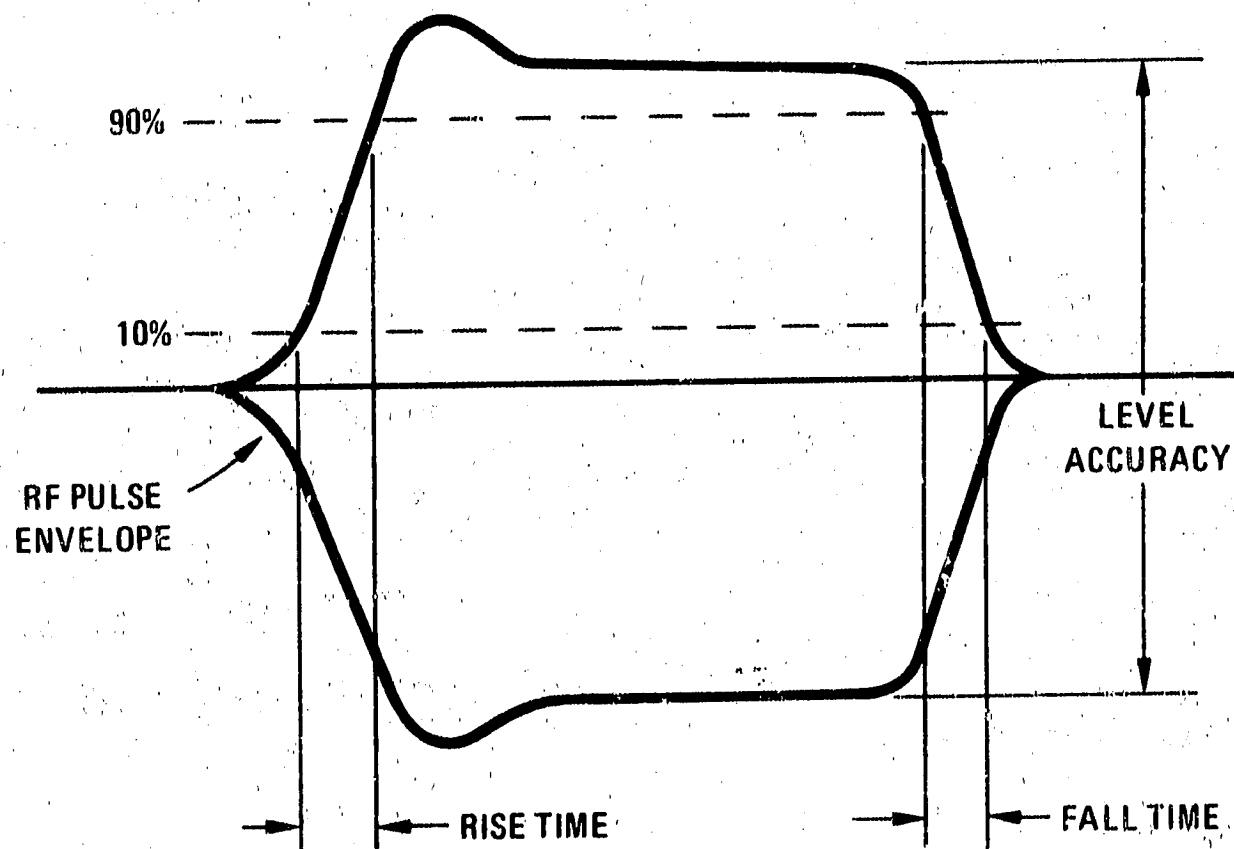

Figure 4-13. Pulse Measurements
- Adjust oscilloscope to display the RF pulse envelope. Adjust generator's PULSE RATE for 100 Hz (or 10 ms period) as read on oscilloscope. Adjust the PULSE WIDTH for 10 μ s (measured at 50% amplitude points) and measure the rise and fall times (see Figure 4-13). Both should be less than 9 μ s (measured between 10% and 90% of the full pulse amplitude).